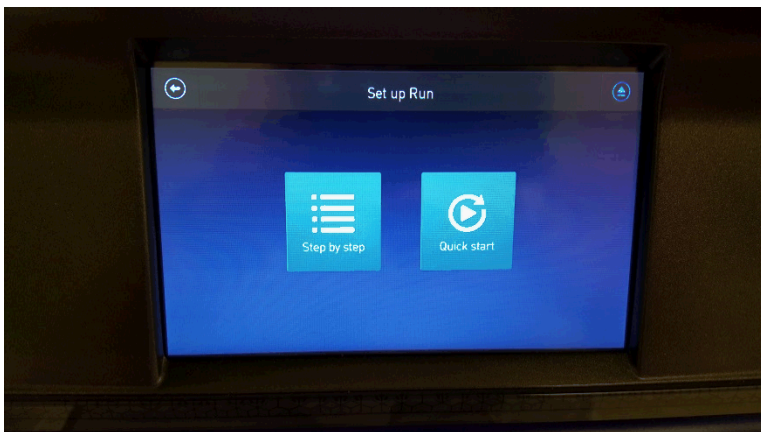

Figure 11. Screenshot of the “Quick Start” button
2. Press “Quick start,” as shown in figure 11.